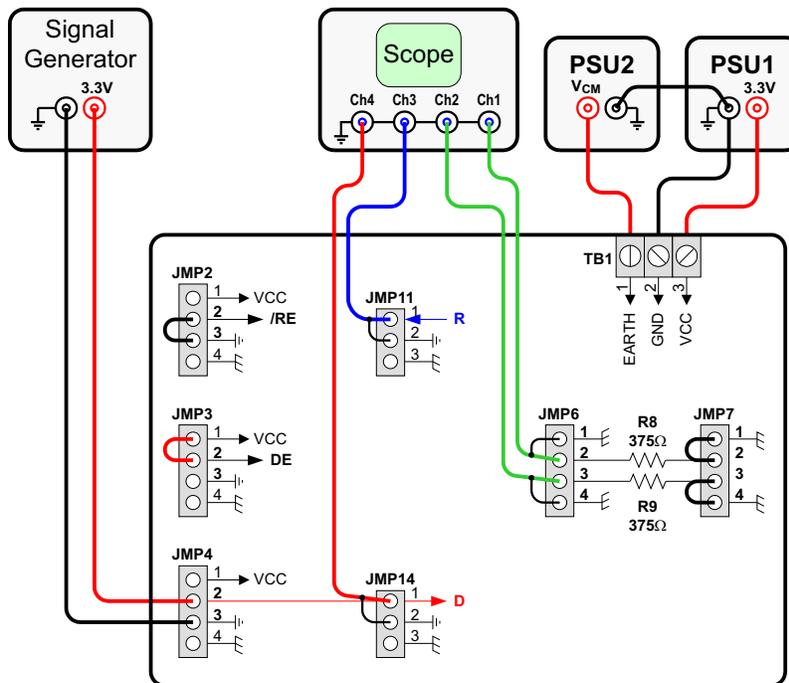

Figure 8. RS-485 Half-Duplex EVM Setup for Maximum Loading
- replace the previous wire-bridge at TB1 with a second power supply unit (PSU2) and connect the ground terminals of both, PSU1 and PSU2 with a wire-bridge, as shown in Figure 8.
Note that Figure 8 only shows the wiring of PSU2 for positive common-mode voltages. For negative  $V_{CM}$ , connect the ground terminal of PSU2 with pin 1 of TB1 (EARTH), and the  $V_{CM}$ -output of PSU2 with the ground terminal of PSU1.